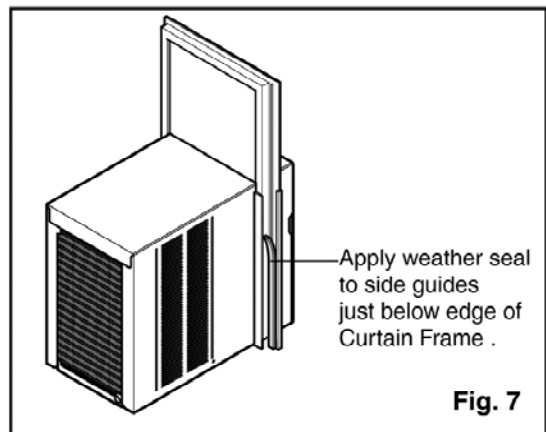

Fig. 7
9. Cut side Guide seal into 2 equal lengths. Remove protective backing and apply it to the rear side of cabinet Side Guides, starting just below Curtain Frame assembly. Pinch off excess length so seal is even with the bottom of side Guide. (Fig. 7)